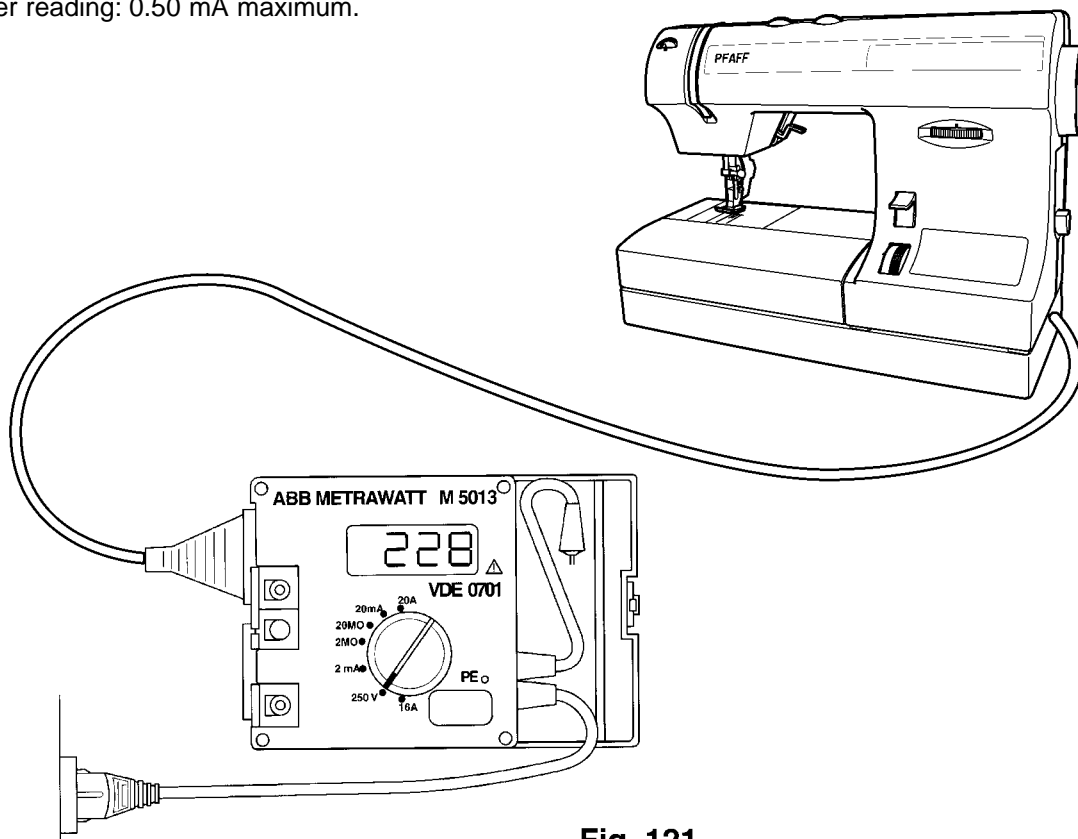

Fig. 121
- Set the testing range switch at "250 V" (fig. 121). If there is mains power voltage, the LCD shows the respective value (230 V +/- 10%).